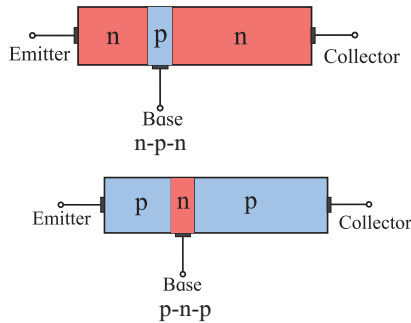

Fig. 16.18 (b): Structure of a BJT.
relatively thick layers of n type semiconductor. Similarly, for a **p-n-p transistor**, a n-type semiconductor (base) layer separates two layers of p-type semiconductor (emitter and collector). It is obtained by growing a thin layer of n-type semiconductor in between two relatively thick layers of p type semiconductor. The three layers of a transistor are the Emitter (E), the Base (b) and the Collector (C) (Fig.16.18 (b)).